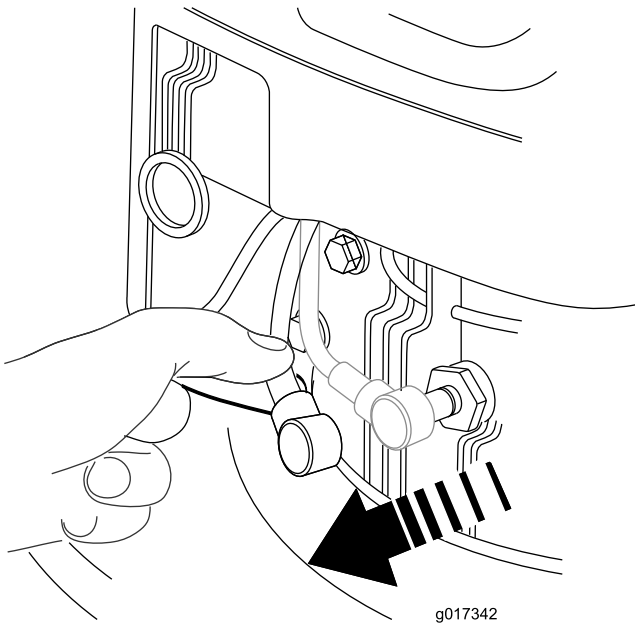

Figure 32
3. Disconnect the spark-plug wire from the spark plug (Figure 32).